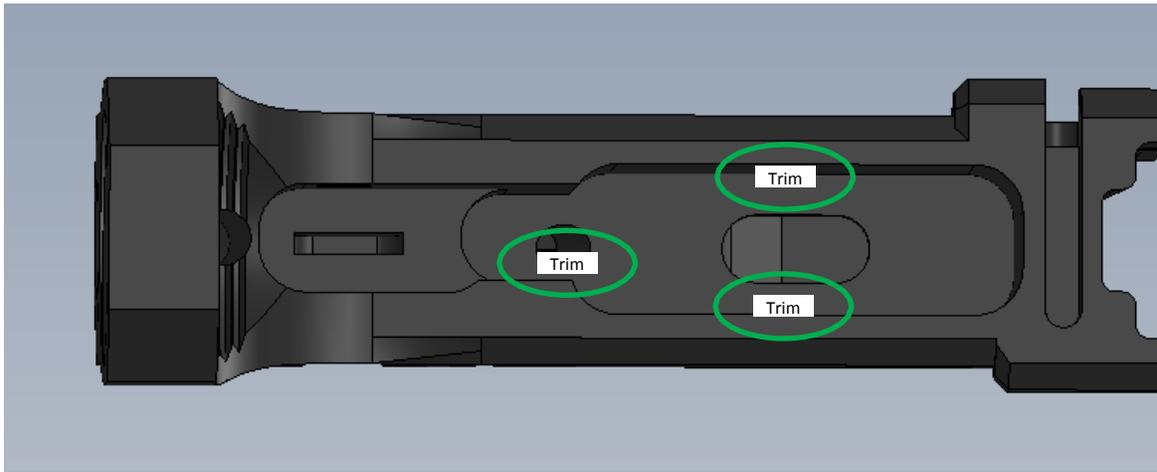

Figure 4
13. Final step is to start the trigger fitting: In **Figure 4**, there are 3 general areas that you'll focus on (besides the trigger hole itself). The trigger should just drop straight down in there cleanly, but it's never happened to me without some additional fine tuning. **Using the dremel bit on the slowest setting**, I carefully and slowly trim surfaces to make sure the trigger operates smoothly. The rear section on the left side of the below figure is where you need to be careful not to penetrate too far on the wall because the safety selector switch **detent and spring** are very close to this area, and the Milspec leaves very little room for error.